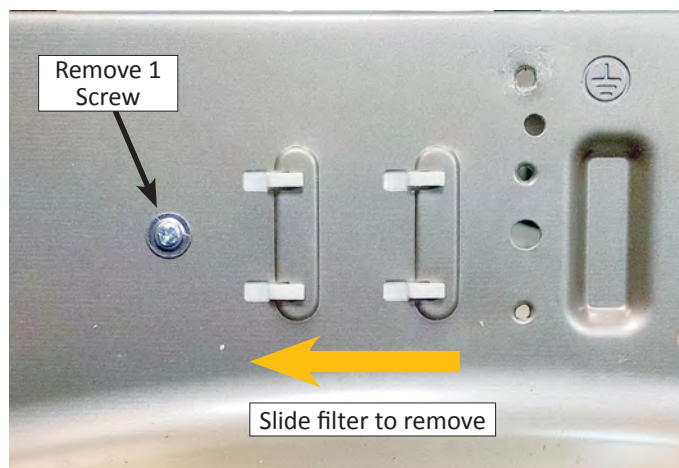

Figure 3
8. Remove the Phillip screw and slide the RFI Filter to the left to disengage from rear panel (see Figure 3).